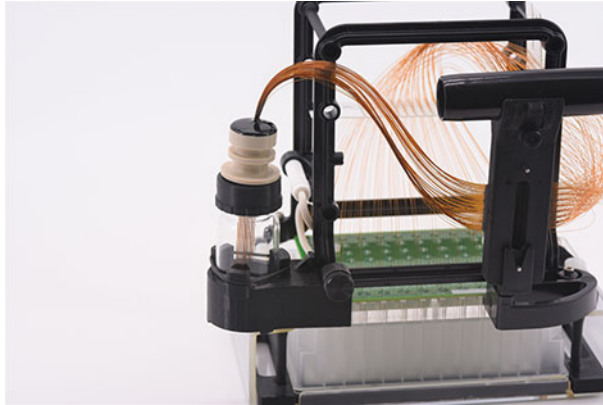

Figure 91 Array docking station with array installed
To see a full image of the array with the array spindle storage device installed, refer to **Figure 91**.
- 9 Remove the capillary array outlet spindle from the black storage plug and place it into the array spindle storage device (**Figure 91**).